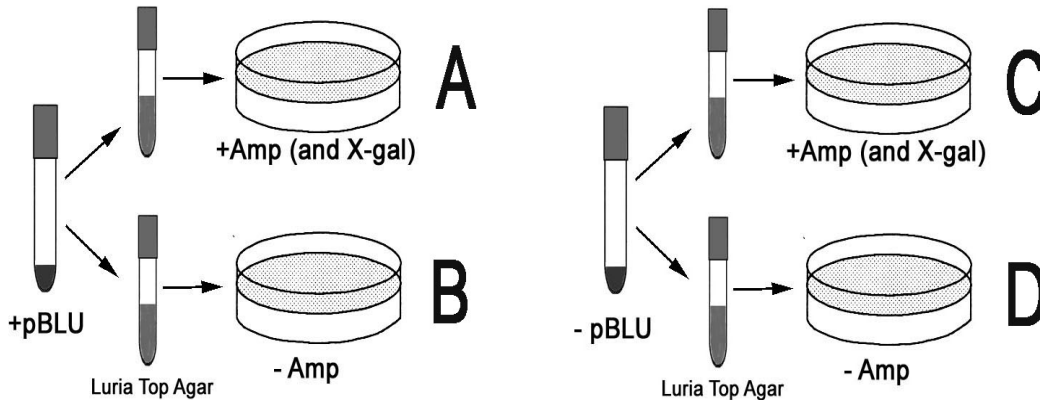

Figure 4. Plating of cell suspensions on bottom agar.
1. Using sterile 1 ml pipets, add 0.5 ml of the '+pBLU' cell suspension to two Luria Top Agar overlays (in 50°C water bath), mix thoroughly by rolling between your palms, and then spread over Luria Bottom Agar plates + or - Amp and X-gal, as shown in Figure 4.